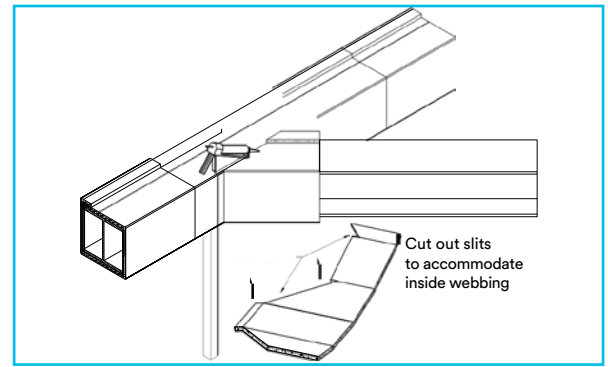

Figure 3
- 3 After fireproofing the horizontal beam, the diagonal member can be fireproofed. Wrap E-Mat around the steel then overlap onto itself (longitudinal overlap). There should be extra E-Mat on the wide-angled side of joint to lay over existing E-Mat on the horizontal beam (*Figure 3*). E-Mat should be tight and free of slack to the diagonal member steel and horizontal beam's E-Mat. Edge of E-Mat can be held in place by filament tape or by another worker. Note that the filament tape is for temporary hold only and therefore the amount of tape and spacing to be used is at the installer's discretion. If a gap of more than 3 mm ($\frac{1}{8}$ in) remains in the perimeter joint between sections of E-Mat, the gap is to be filled to the full depth of the E-Mat with the 3M™ Fire Barrier Water Tight Sealant 3000 WT.